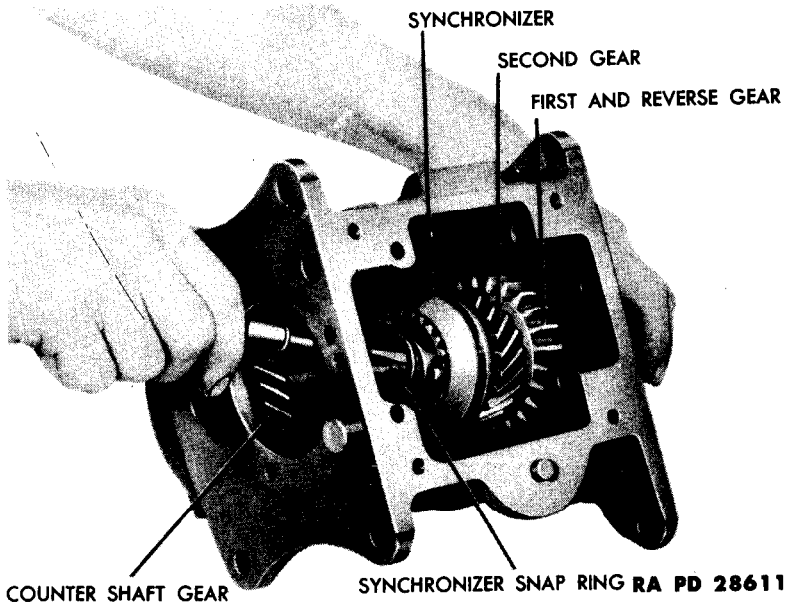

Figure 11 — Removing Synchronizer Hub Snap Ring
f. **Remove Mainshaft (fig. 11).** Remove the synchronizer hub snap ring. Slide the synchronizer assembly, second and first and reverse gear off the mainshaft. Remove the shaft.